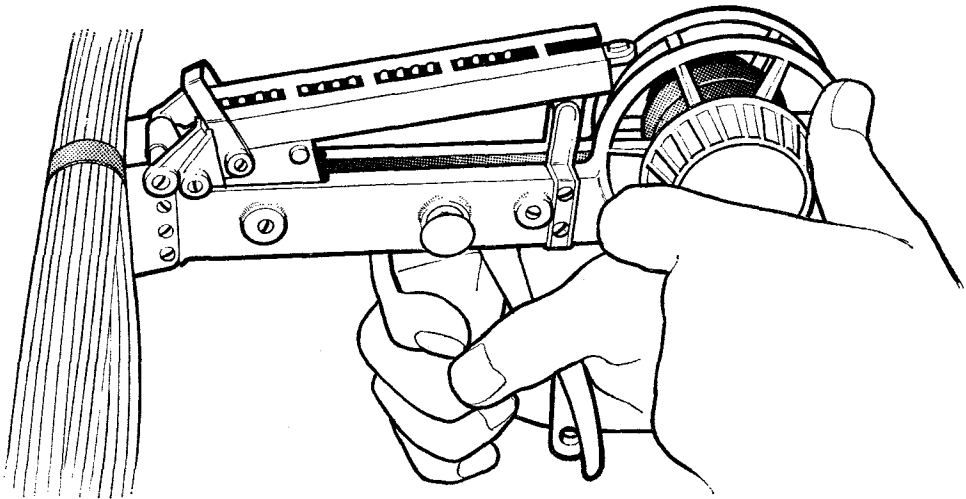
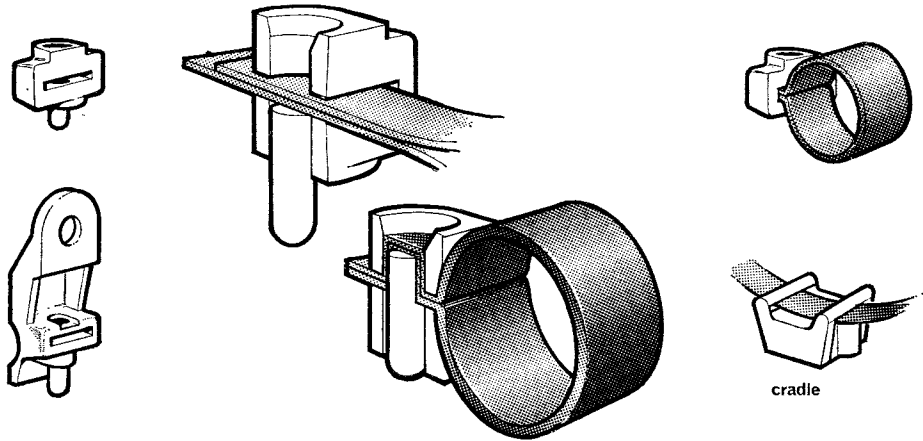

Fig 33 Cable binding tool
Fig 34 Cable binding method
41. A group of wires can also be formed into a cable loom by binding them together at suitable intervals. The binding method uses a pre-tensioned nylon strapping and preformed nylon closures. These closures are fastened using a special binding tool (Hellerman Tyton Mk 4 Fig 33). The strapping is supplied in 24 foot reels which enables looms of almost any size to be handled. Two types of closure are available (*see* Fig. 34), one of which has a single hole fixing lug to enable the loom to be fastened to a panel or chassis if required. Where the loom may have to be removed occasionally for servicing or repair operations it can be fitted to the airframe using the special nylon cradle shown in Fig 34.
strapping into a closely mated hole (Fig 34). The nylon rivet expands slightly when forced into position, and will remain in position even under vibration conditions. As the strapping is not pierced during the fastening process it retains its full strength and will not tear out of the closure.